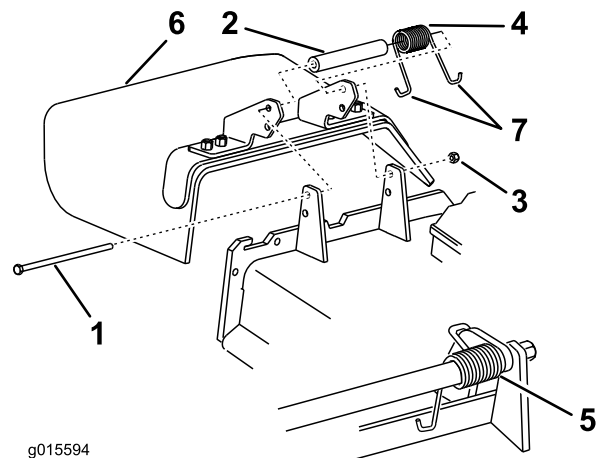

Figure 51
3. Remove the locknut, bolt, spring and spacer securing the deflector to the pivot brackets (Figure 51).
5. Place one J-hook end of the spring behind the deck edge (Figure 51).
Note: Ensure that one J-hook end of the spring is installed behind the deck edge before installing the bolt as shown in Figure 51.
7. Place one J-hook end of the spring around the grass deflector (Figure 51).